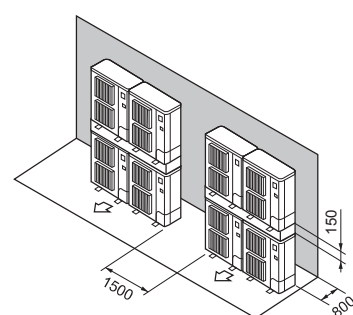

Fig. 2-19
- ⑦ Stacked unit arrangement (Fig. 2-19)